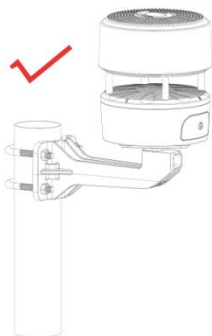

Figure 4 The wrong example of installation of the WS85
1. You can attach a pole (not included) to a permanent structure and then attach the sensor package to it (see Figure 4).